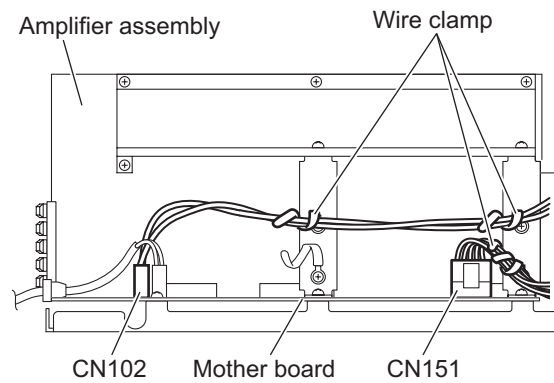

Fig.14
### 3.4.10 Removing the power transformer (See Figs.14 and 15)
- (1) From the top side of the amplifier assembly, disconnect the wires from the connectors CN102 and CN151 on the mother board. (See fig.14)
- After connect the wires from the connectors CN102 and CN151, bundle the wire by the wire clamp. (See Fig.14)